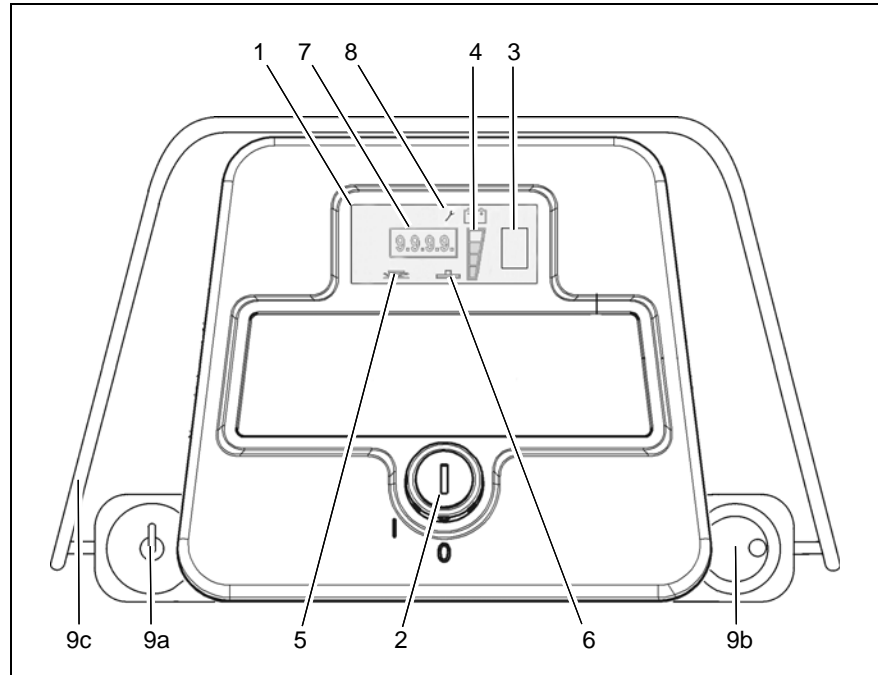

Fig.4
5. Use speed control knob (Fig.4/9b) to adjust work speed. Use the direction switch (Fig.4/9a) to select forward or reverse. Pull the bail handle (Fig.4/9c) to start moving.
Display (Fig. 4/1)
Battery charge indication (Fig. 4/3)
LDS indicator (Fig. 4/4)
Symbol brush drive (Fig. 4/5)
Symbol vacuum motor (Fig. 4/6)
Hourmeter (Fig. 4/7)
Symbol service indicator (Fig. 4/8)
Drive direction control with speed control knob and bail handle (Fig. 4/9)